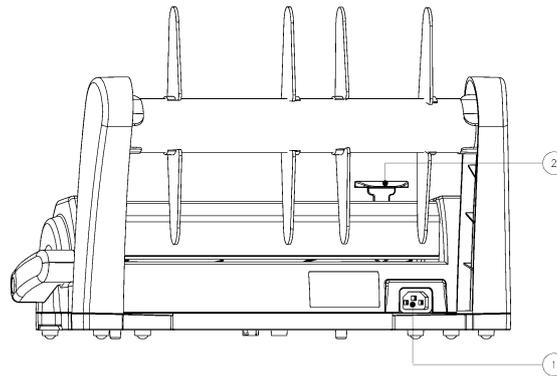

fig. 5 Connection point
Insert the female plug of the power cord into the power port (1) of the machine (see fig. 5).